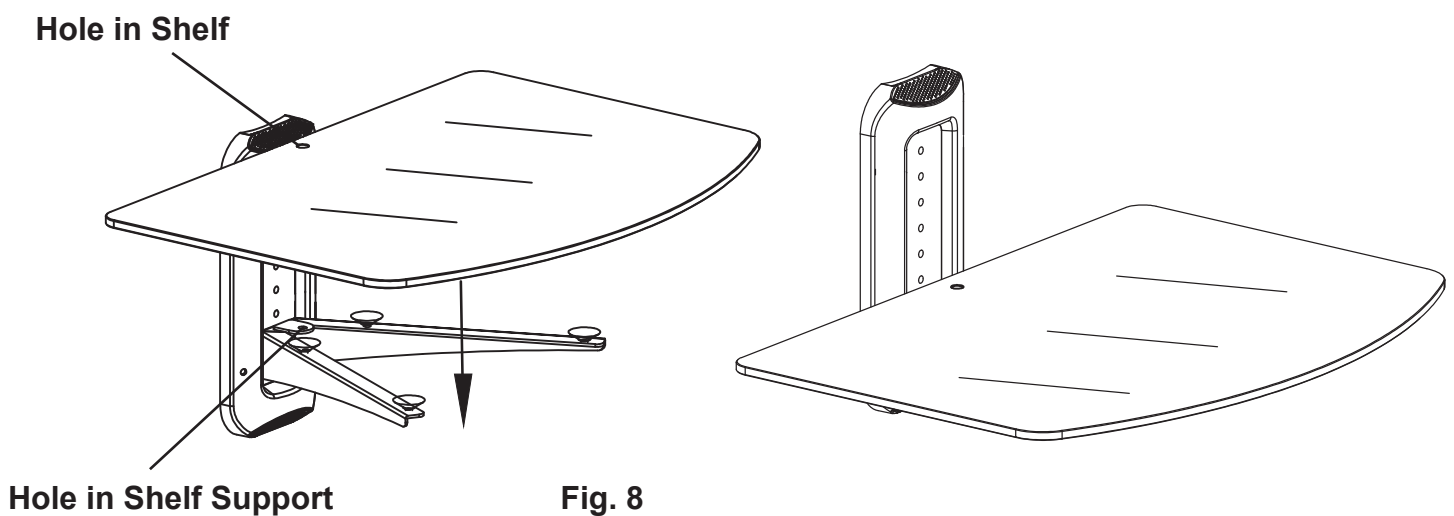

Fig. 8
Carefully place the **Glass Shelf (4)** on the **Shelf Support (3)** as shown in Fig. 8.